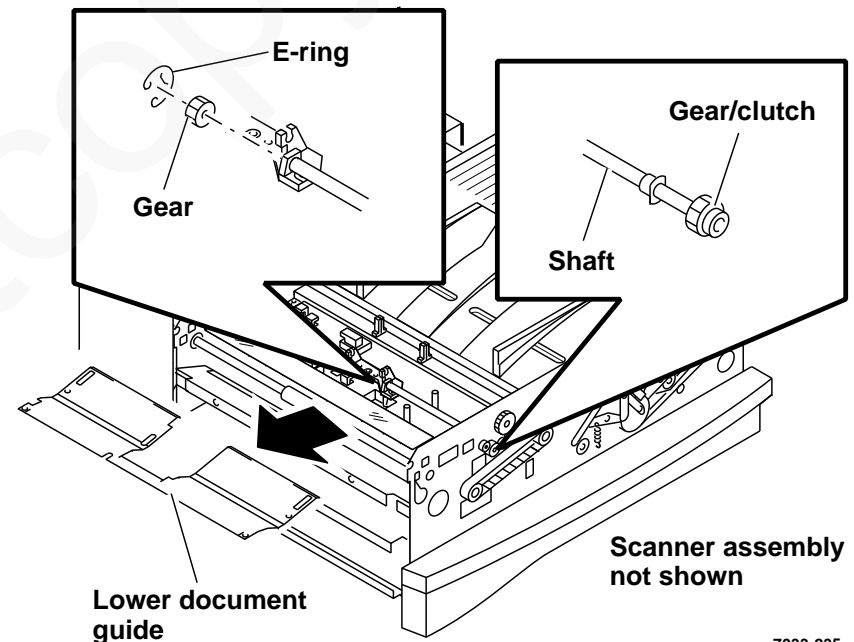

Figure 8. ADF belt drive shaft and gear removal
- c. Remove E-ring and gear from rear of shaft (Figure 8), and slide shaft out towards front of terminal (front gear/clutch and bearing should come out with shaft).